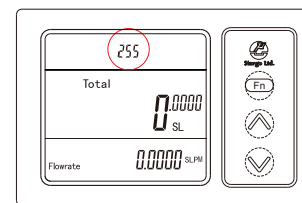
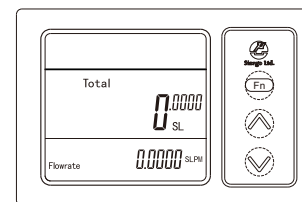

Figure 6-9 Multi-device communication mode
Figure 6-10 Single-device communication mode
(4) Communication Modes switches (Figure 6-9, Figure 6-10)
- Set the address of the meter(value of *SEt Addr* ) as (3).E. such as 255 ;
- Set the meter to *Multi-device communication mode* (select value of *PrOTOCOL* to P1-255 or P2-255) as (3).D;